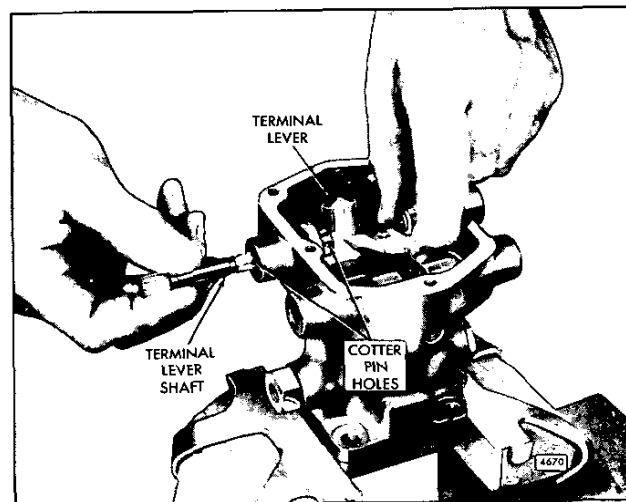

Fig. 14 - Installing Terminal Lever Shaft in Governor Housing and Terminal Lever
- b. Lubricate one of the terminal lever shafts with engine oil. Place the terminal lever in between the ends of the two bushings inside of the governor housing; then insert the serrated end of the shaft into the bushing in the housing with the cotter pin holes in the shaft and terminal lever in alignment as shown in Fig. 14. Push the shaft into the lever until the two holes are in alignment.